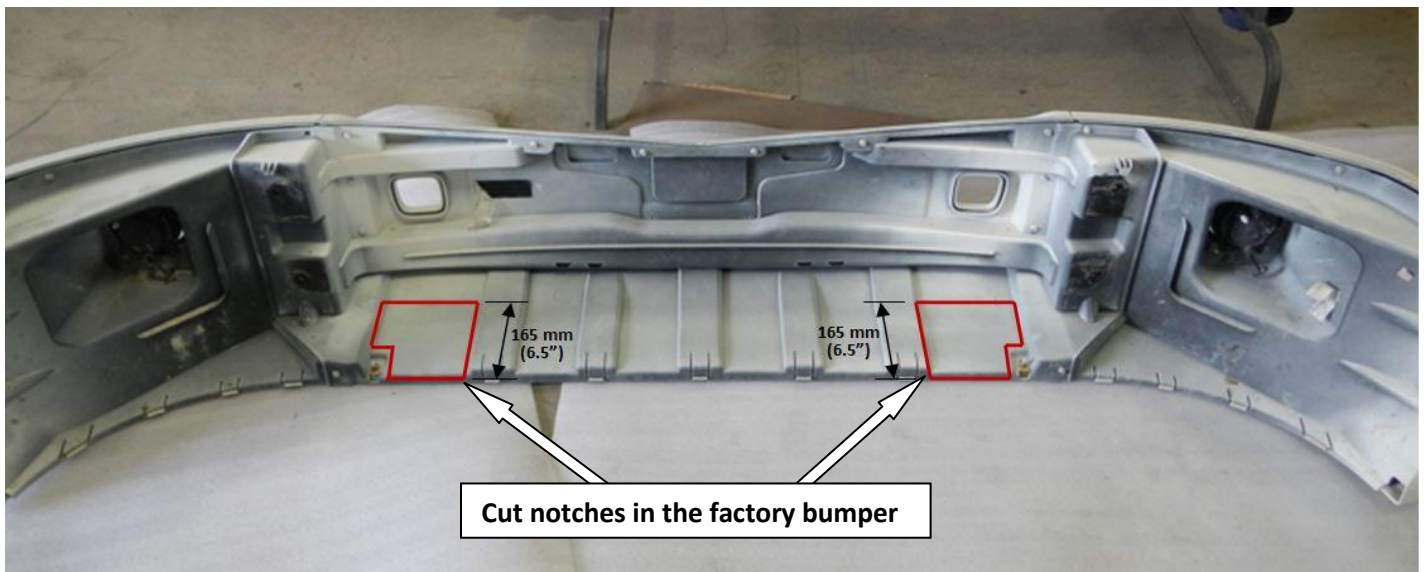

Figure 2
2. To allow for the installation of the BFG submounts, cut two notches in the factory bumper as shown in Figure 2.